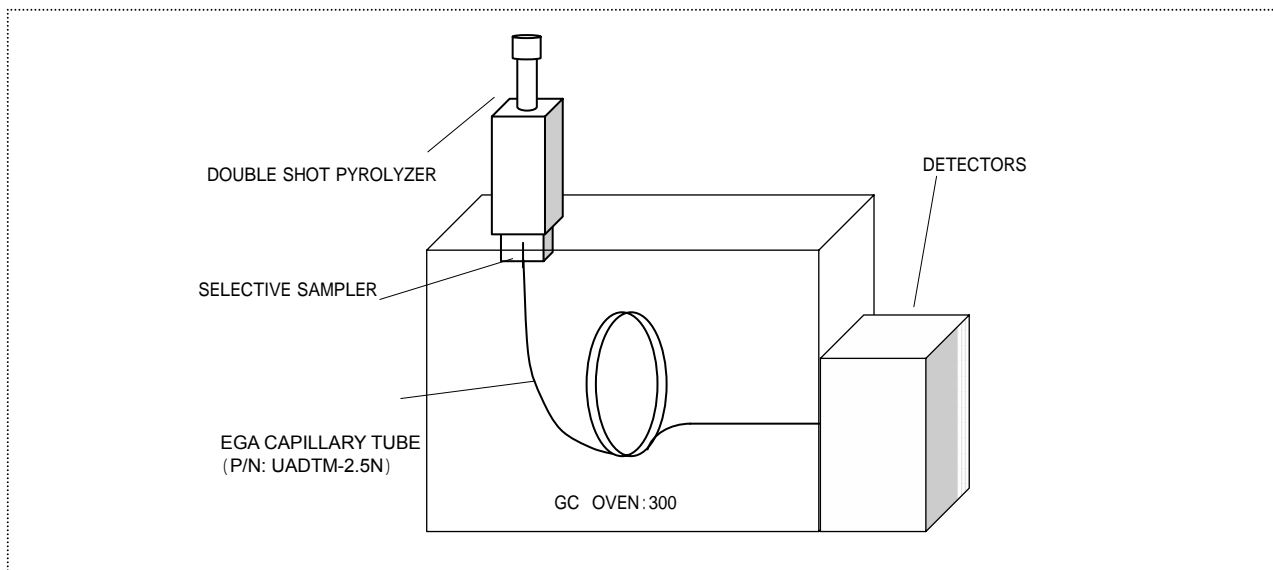

Fig. 7.4.1 Evolved Gas Analysis Construction
7.2.1 Evolved Gas Analysis Tests (See Fig.7.4.1, Operating Procedure P.4-13, 4-14)